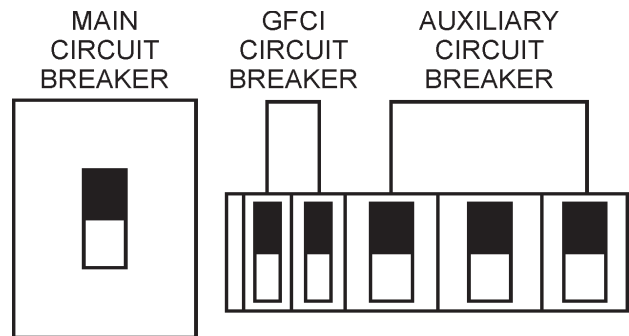

Figure 60. Main, AUX. and GFCI Circuit Breakers (ON)
17. Turn the **main**, **GFCI**, and **aux.** circuit breakers to the "ON" position (Figure 60).